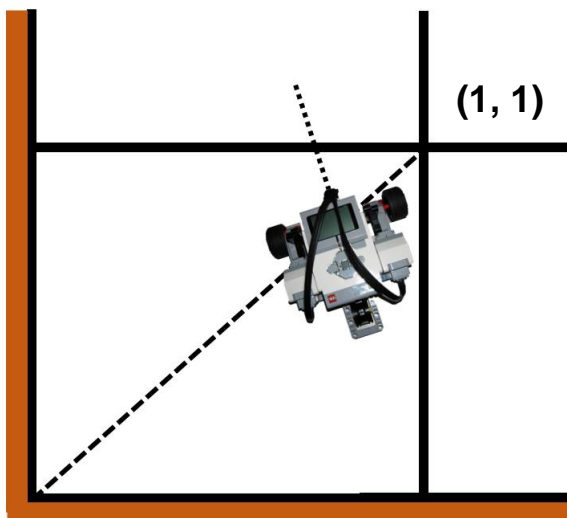
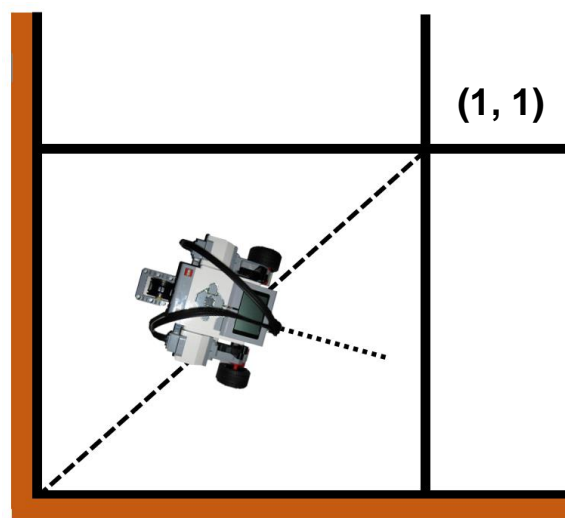

Figure 1. Robot's Starting Orientation A.
Figure 2. Robot's Starting Orientation B.
As shown in **Figure 1**, the robot is placed along the 45° line (thick dotted) inside the bottom-left tile of the 4x4 field grid. The **brown-colored** walls represent walls used for the **ultrasonic localization**. Please note that the robot could be placed in **ANY ORIENTATION and POSITION** along this 45° line. For example, **Figure 2** shows another orientation and position of the robot's starting position compared to that in **Figure 1**.
After the measurement is complete, the robot should then move to the (1, 1) point as shown in **Figure 1** and **Figure 2**. **Once light localization is performed at this point, two error quantities are measured by the TA: the Euclidean distance error ϵ between the robot's actual position (X_F, Y_F) and the (1, 1) point, and the orientation error with respect to the 0° axis.**
1. Place the robot in a tile corner along the 45° line (**Figure 1**), where two walls are present.
1. **Do I need to implement my robot's localization routines using the same 0° axis shown in Figure 1 and Figure 2 (that is, along +y axis)?**